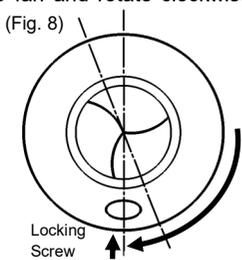

Fig. 8
- Position front cover over IPX cover in same orientation as it was removed. Lightly press front cover onto fan and rotate clockwise. Refit locking screw. (Fig. 8)